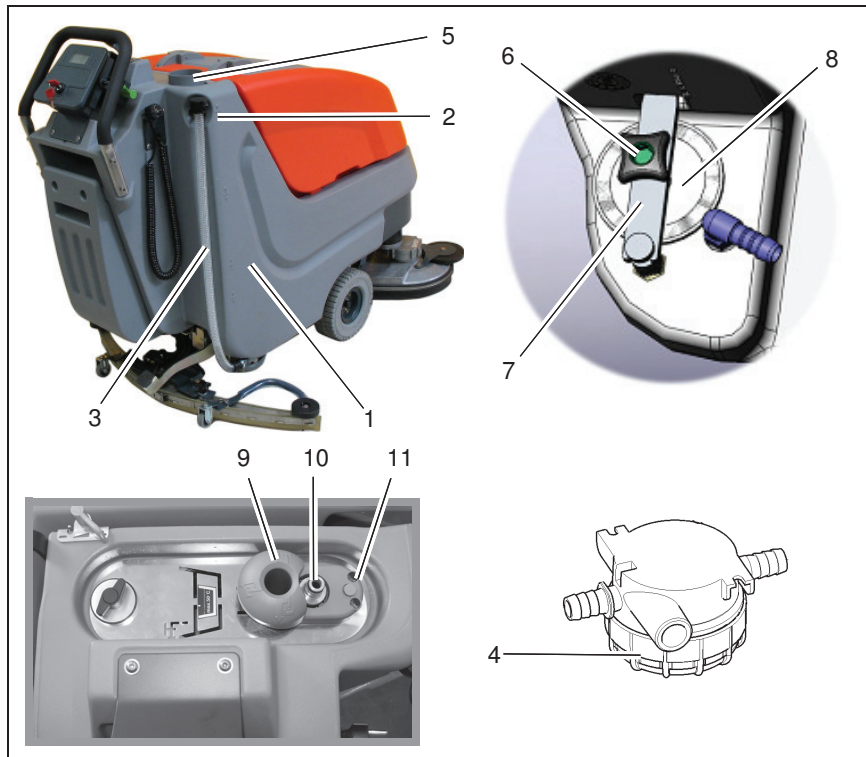

Fig.8
Fill fresh water tank (Fig. 8/1) before work or as required. Park vehicle on level ground. Open tank lid (Fig. 8/5) and fill tank with fresh water up to the maximum (1/1 marker) (Fig. 8/2).
Park vehicle such that the fill level hose (Fig. 8/3) is located above the drain aperture in the floor. Take fill level hose from holder and remove lid.
To open the maintenance hole, loosen the wing bolt (Fig. 8/6), remove the clamping plate (Fig. 8/7) (push upwards and pull out downwards at an angle) and remove the lid (Fig. 8/8) together with seal. After cleaning, close the opening in the reverse working sequence. Check the condition of the seal / sealing surface beforehand. If necessary, replace the seal / clean the sealing surface. Only tighten the wing bolt by hand.
Check fresh water filter (Fig. 8/4) at weekly intervals and clean or replace if required.
1. Empty fresh water tank (Fig. 8/1) , see paragraph 5.5.2.
1. Plug on the water connection (Fig. 8/10). Do not open the water supply line at this point!
2. Press the operating button (Fig. 8/9). The indicator knob (Fig. 8/11) projects.
4. The filling unit switches off automatically when the tank is full. The indicator knob (Fig. 8/11) no longer projects.
The machine can also be filled manually through the hole in the operating button (Fig. 8/9). The transparent hose on the machine serves as a fill level indicator.